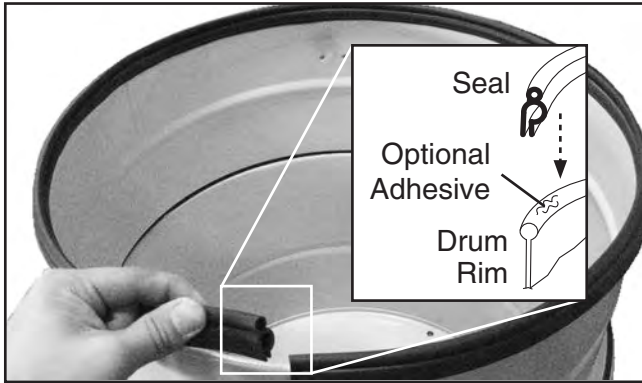

Figure 26. Installing canister seal.
19. Insert the rubber seal over the top lip of the collection drum rim. Pay special attention to the direction of the seal, as shown in the **Figure 26**.